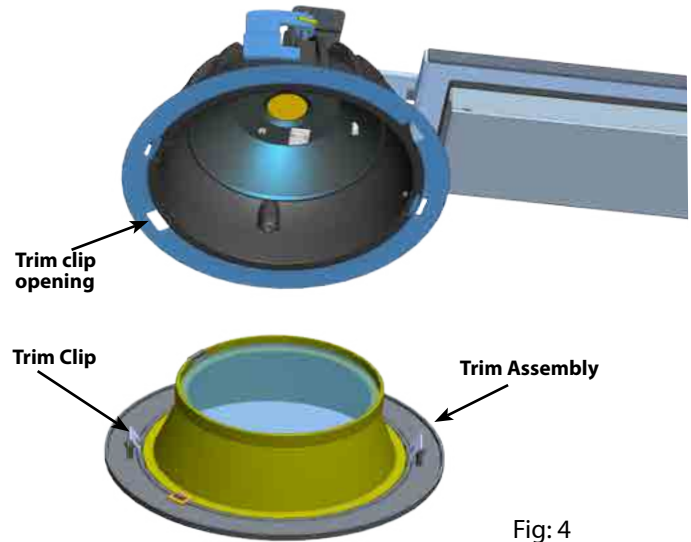

Fig: 4
2. Match the **Trim Spring Clip** to **Spring Clip Opening** and snap the **Trim Assembly** into **Trim clip opening**. Trim ring should be flush to ceiling as shown in Fig. 4.